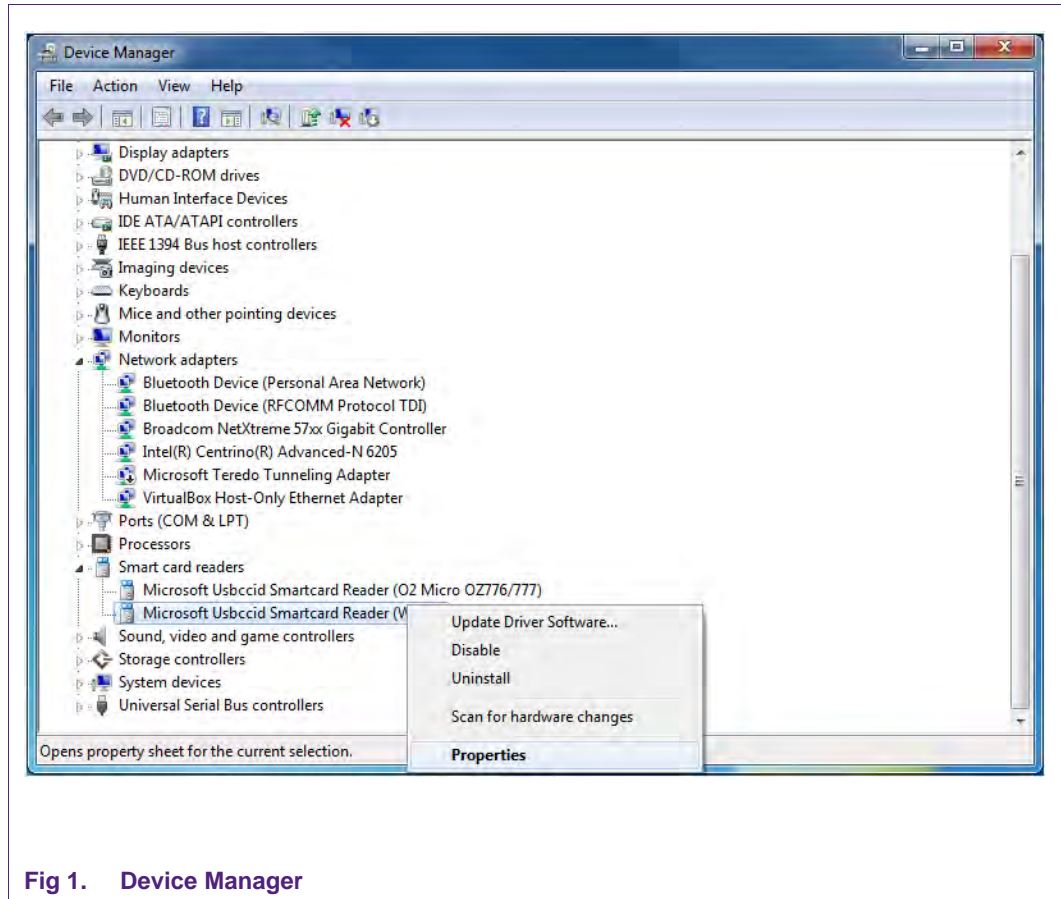

Fig 1. Device Manager
- 4) Open the Windows Device Manager and navigate to the installed Reader (see figure 1 below)
You can find a photo with description on NXP web (see [35]) (table and figure 1)